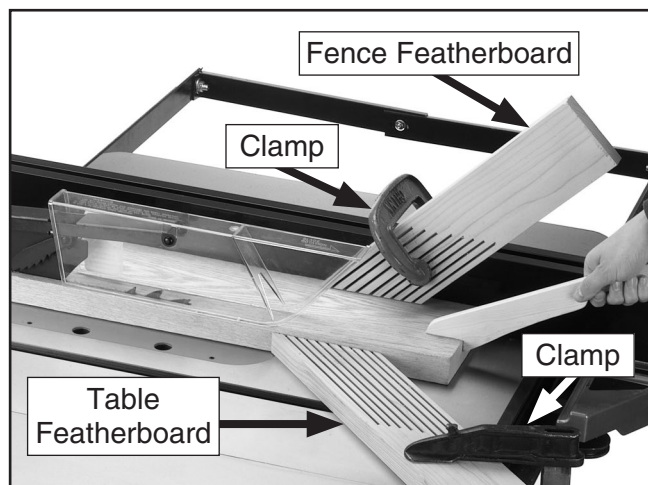

Figure 129. Example of featherboards secured with clamps.
3. Place featherboard on table away from blade so all fingers point forward and contact workpiece (see **Figure 129**).
6. Mount second featherboard to fence with a clamp (see **Figure 129**), then repeat **Step 5** to ensure it is secure.